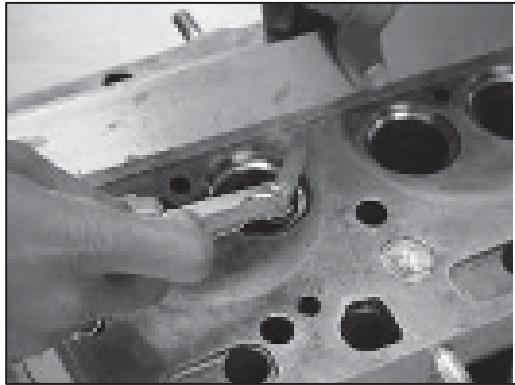

Fig. C2.38 Checking Cylinder Head Flatness
1. Check the cylinder head surface with straight edge and feeler gauge as shown in the fig. C2.38